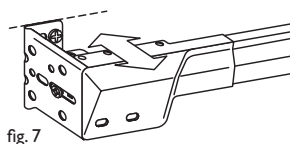

fig. 7
3. You can adjust the position of the track relative to the wall by loosening the small locking screws in the end brackets and then pulling the track out to suit (Fig. 7). Re-secure the screw upon completion.